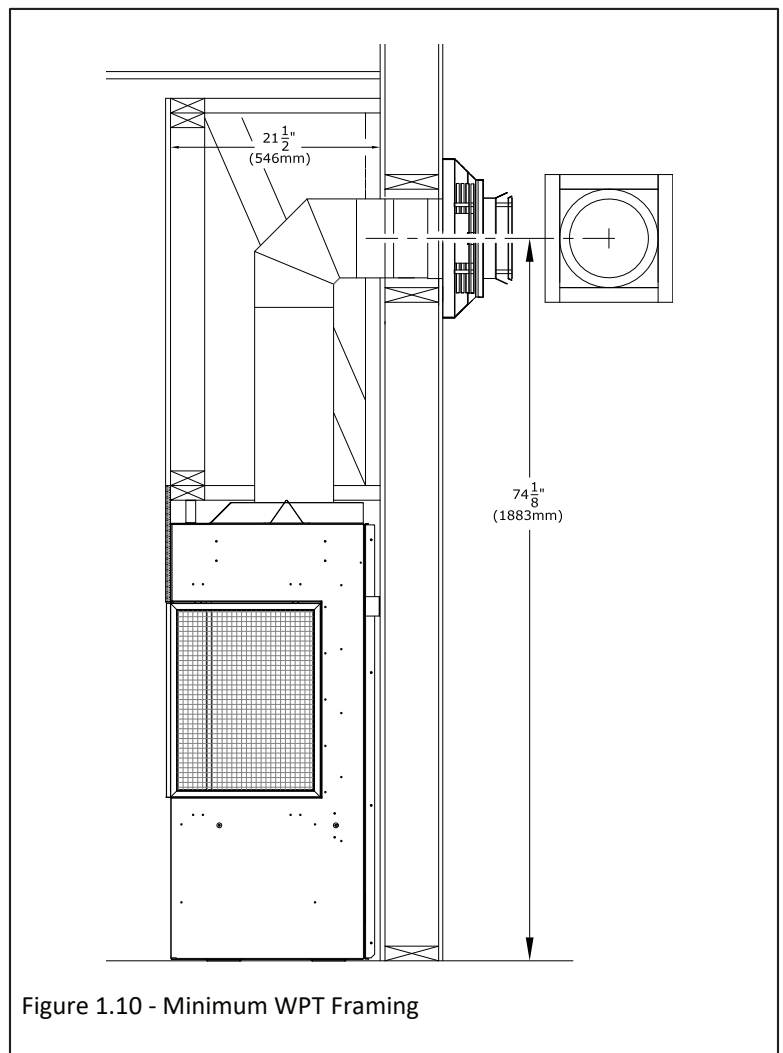

Figure 1.10 - Minimum WPT Framing
- Follow Figure 1.10 for minimum rough-in dimensions.
1. Measure from floor level of the fireplace to the center of where the vent pipe will penetrate the wall. The dimension in Figure 1.10 is used with a Simpson DuraVent vent pipe.